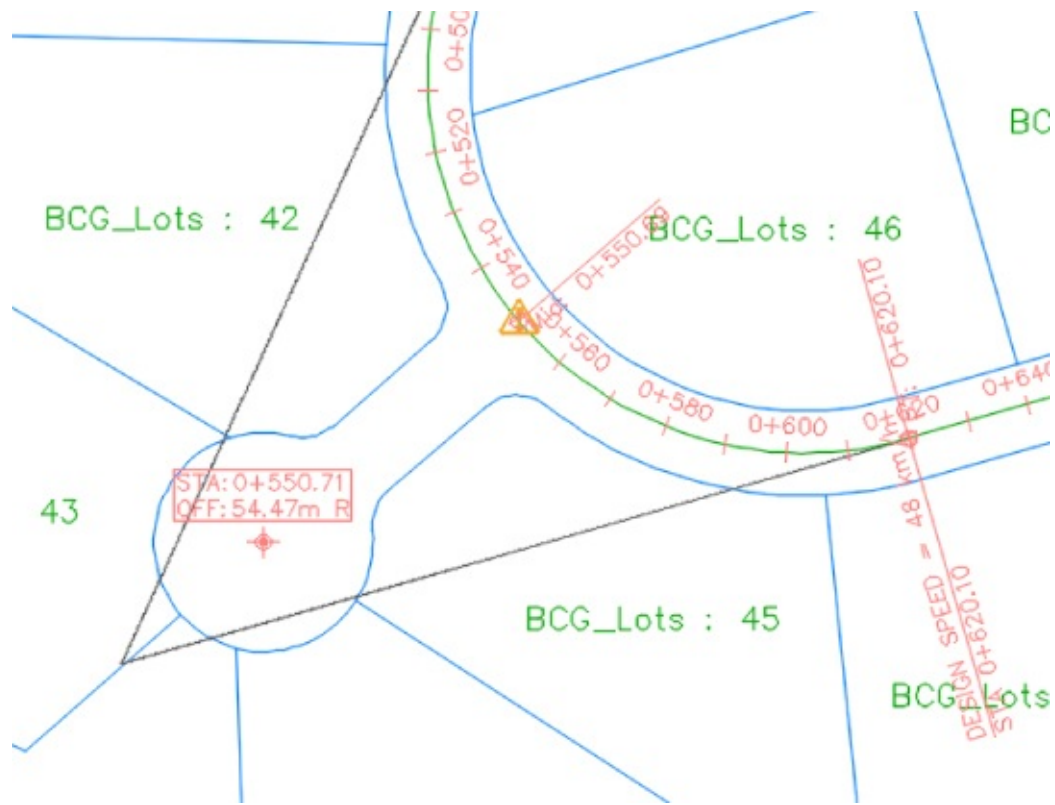

Figure 6.50 The alignment station offset label in use
7. At the Specify station along alignment: prompt, use the Center Osnap to snap to the center of the right-of-way arc at the cul-de-sac (See Figure 6.50).
8. At the Specify station offset: prompt, use the Center Osnap to snap to the center of the right-of-way arc at the cul-de-sac (see Figure 6.50) again, and press \leftarrow to end the command.
10. Select the label if needed, and use the square grip to drag the label to a convenient location (Figure 6.50). Label grips will be discussed further in Chapter 18.